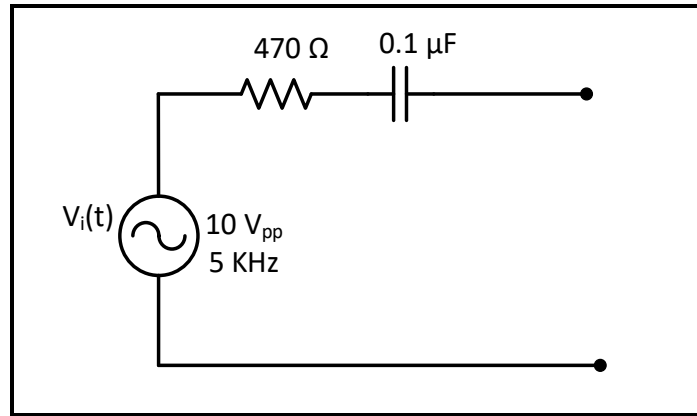

Figure 10.8
3. For the circuit of Figure 10.8, design a load that is when connected to the output terminals of the circuit will extract maximum average power, then calculate magnitude of P_{Max} .
1. For the circuit shown in Figure 10.8: connect the load, that you designed in your prelab in order to get the maximum power transfer to the load, to the circuit terminals.